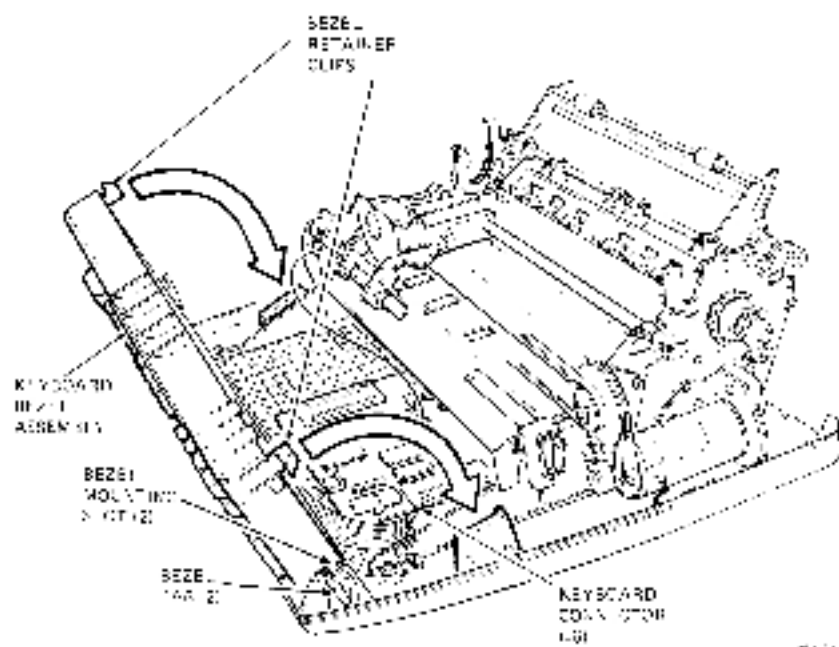

Figure 3-4 Keyboard Bezel Assembly Removal
7. Press the bezel retainer clips and rotate the bezel towards front of terminal (Figure 3-4).
7. Press the keyboard bezel retainer clips and rotate the bezel towards the front of the terminal (Figure 3-4).